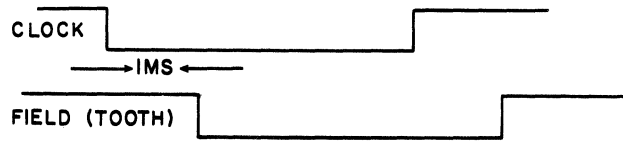

Figure 3-2. Clock and Field Signals
3. Using the Clock pulse (C03-TP1) for a reference (-), observe the Clock pulse on one trace of the scope and observe the Field pulse on the other trace. With the reader cycling, turn the clock photo diode adjusting screw until the signal relationships shown in Figure 3-2 are obtained.